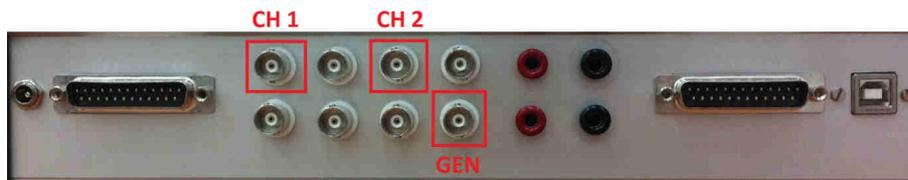

Fig.18. Back side of a measurement panel
- 1) Reconnect the BNC connectors according to the scheme presented in Fig. 18 (ONLY CH 1 and CH 2).